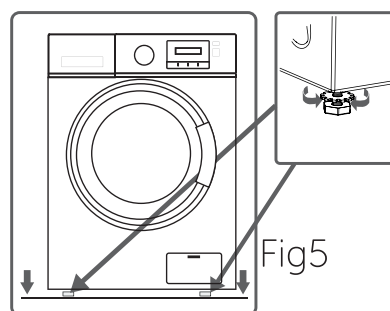

Fig5
**3:**First,loosen the plastic adjustment nut.(Fig 5)